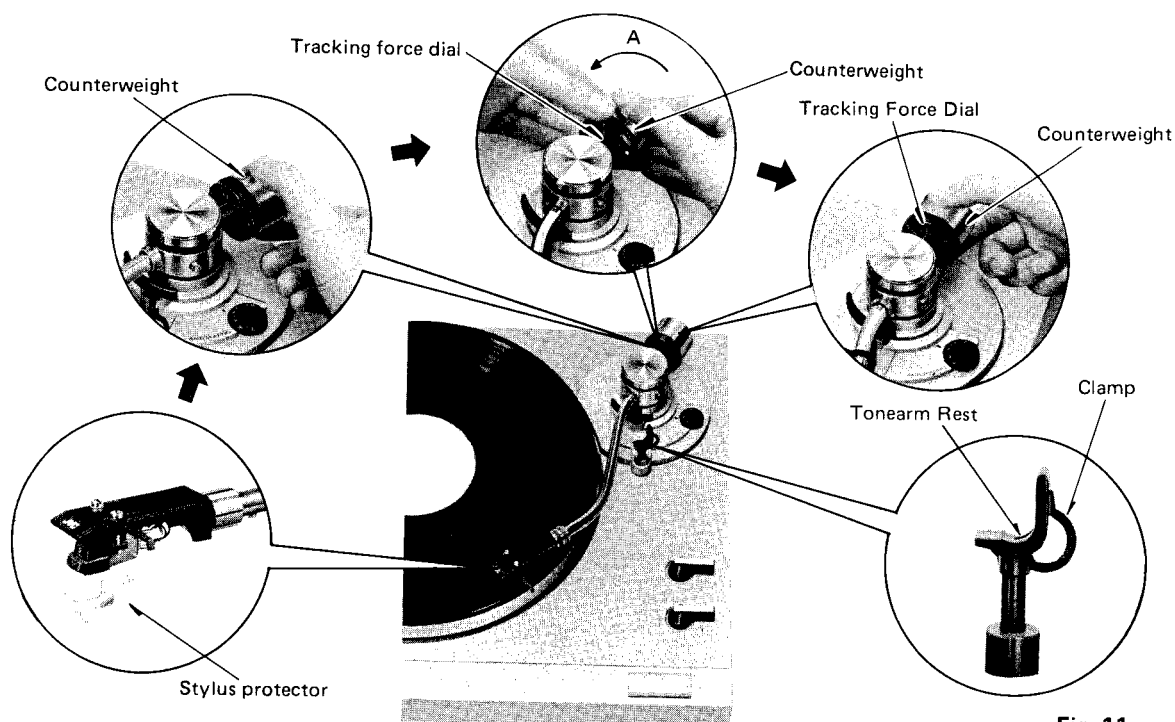

Fig. 11
8. Hold the counterweight at the adjusted position and turn the tracking force dial until the "0" mark is aligned with the index line on the tonearm weight shaft. Turn the counterweight in the A direction until the "2" mark on the dial is aligned with the index line for the model preparing cartridge Z-1S except U.S.A., Canada and U.K. See Fig. 11